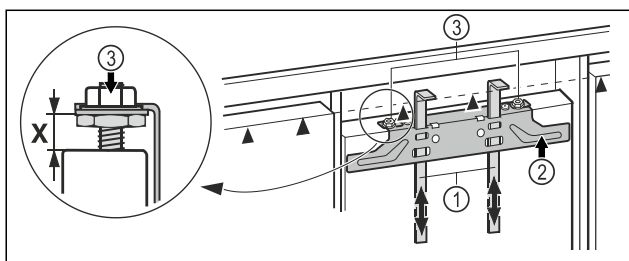

Fig. 43
- Push the assembly aids Fig. 43 (1) up to unit door height. Lower stop edge ▲ of the assembly aid = upper edge of the unit door to be assembled.
- Unscrew the fastening bar Fig. 43 (2) using the lock nuts Fig. 43 (3).